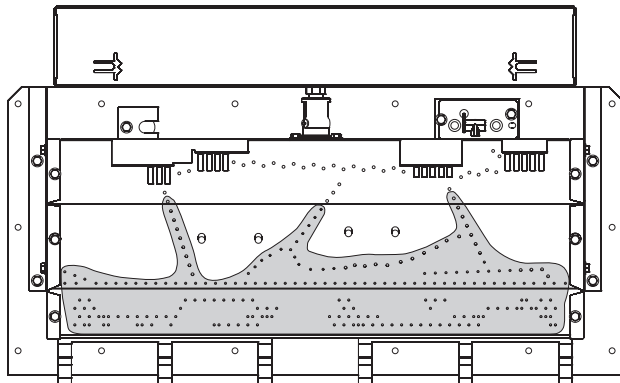

Figure 64
18. After all logs are properly positioned, place small "dime" size pieces of Rockwool lightly across the front round "blueflame" ports. Place the ember material (Rockwool pieces) side by side. Do not stack more than one layer of embers across the burner ports. **See Figure 64.**